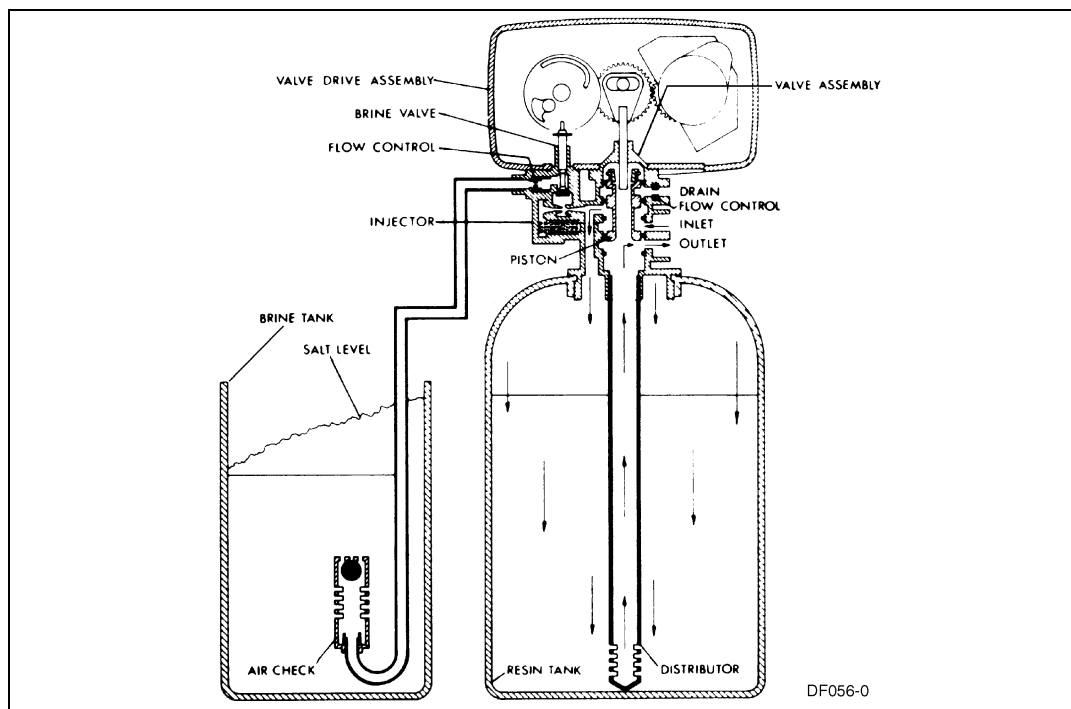

Figure 4: Service Position
1. I position. *See Figure 4, page 10.*
- Same as *Figure 4, page 10* with standard piston (white end plug) or filter piston (black end plug).